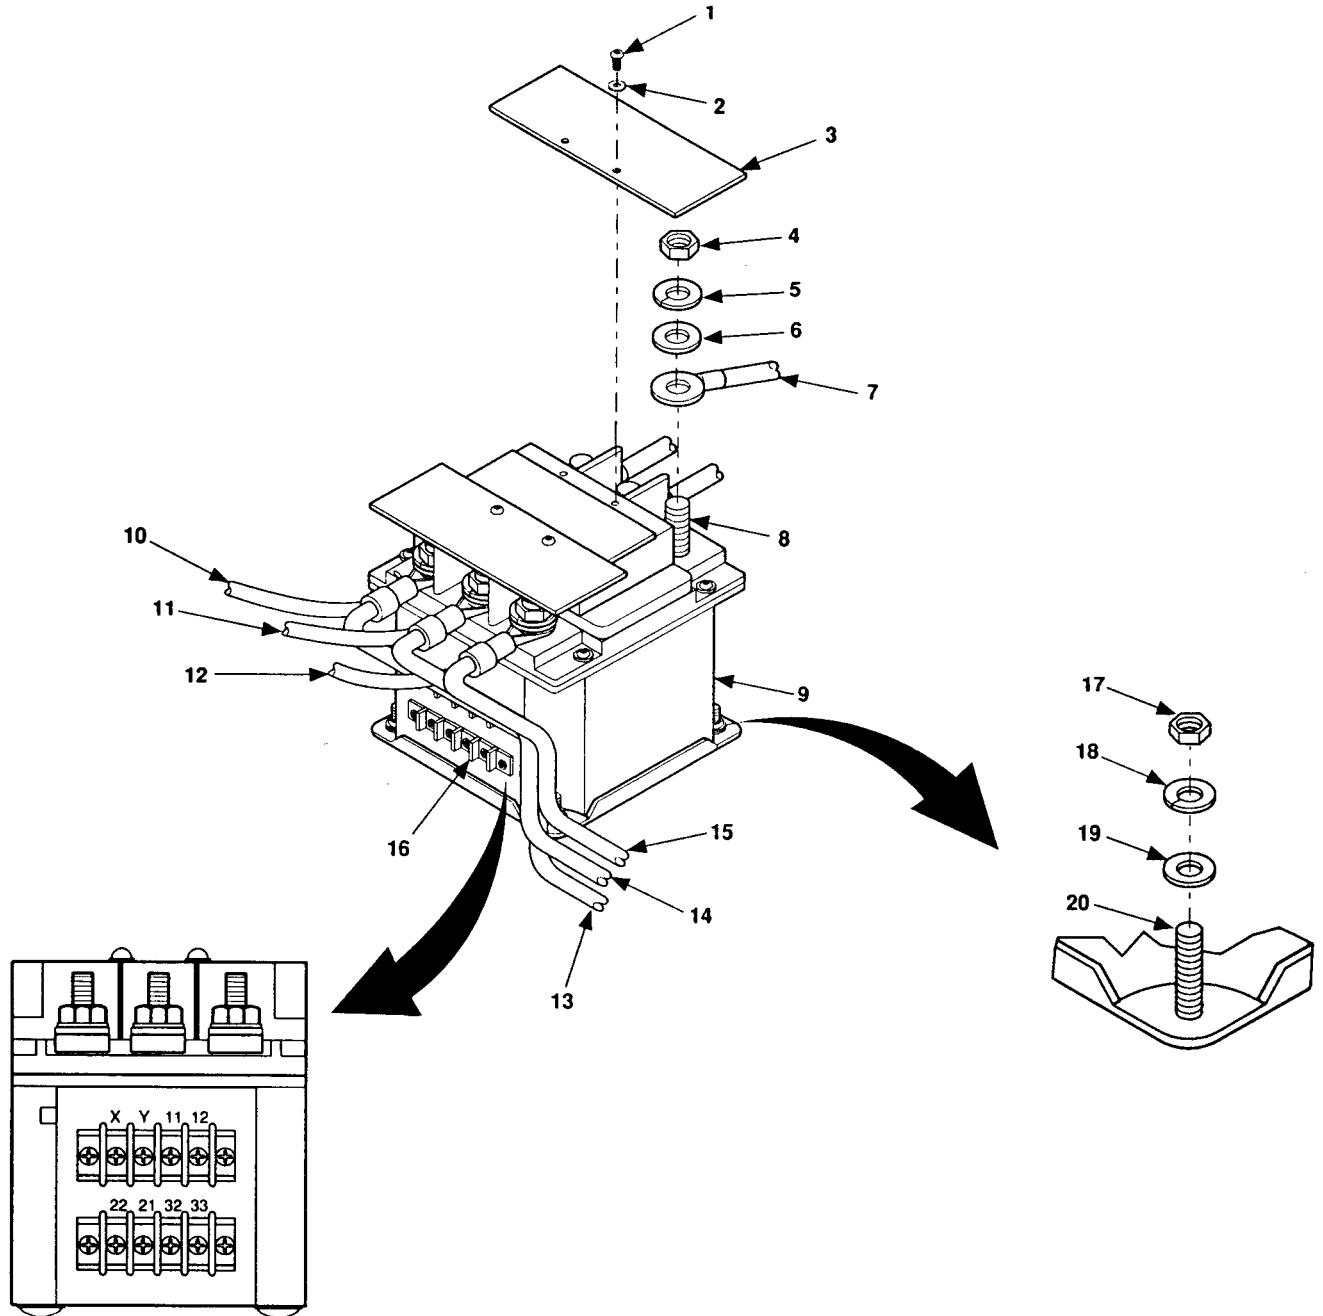

Figure 5-18. Replace Contactor.
1. Remove four screws (1, figure 5-18), lock washers (2) and terminal shields (3) from contactor (10).
2. Remove nuts (4), lock washers (5), and flat washers (6) from all contactor terminals (9).